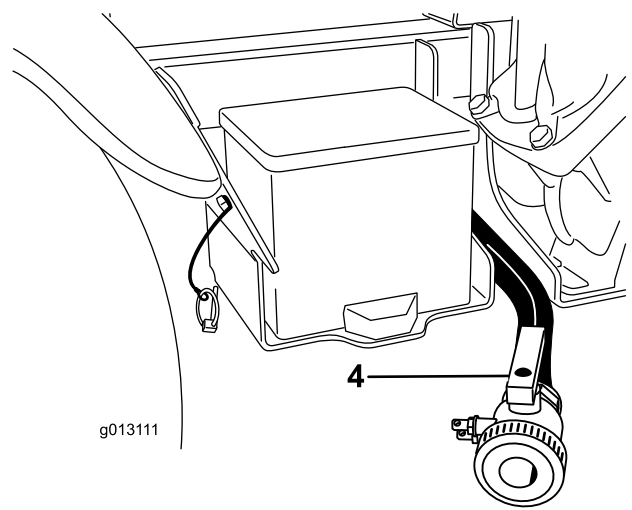

Figure 26
- B. Open the valve to drain any unused material from the tank and dispose of it according to local codes and the material manufacturer's instructions (Figure 26). This allows any residual material in the line to drain.
3. When the tank has drained completely, close the drain valve and install the valve to bracket with the lynch pin removed previously (Figure 26).